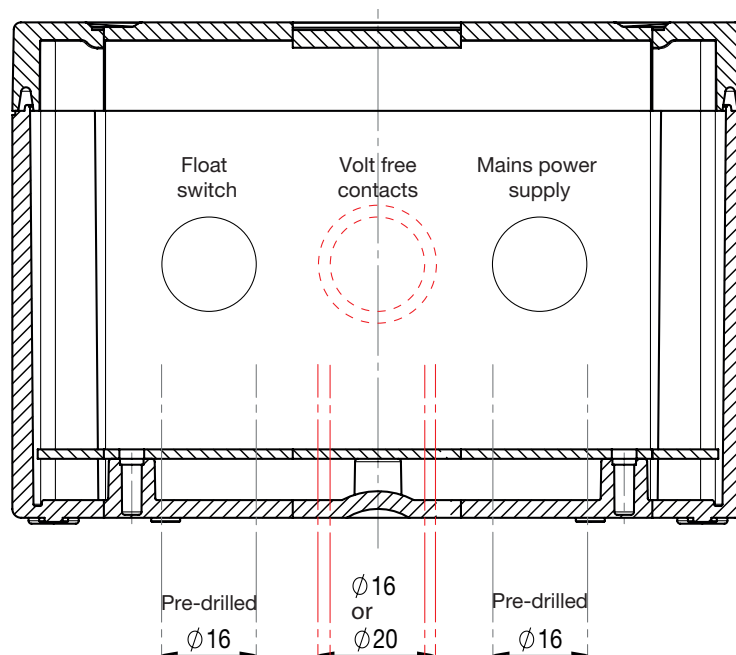

Figure 3. Drilling the mounting panel
- For the volt-free contacts, you will need to drill the appropriate diameter hole as shown in Figure 3 to add the M16 or M20 cable gland. The cable gland required would depend on the diameter of signaling cable used.
1. Loosen the float switch cable gland located on the underside of the Delta HLA panel, as shown in Figure 3.